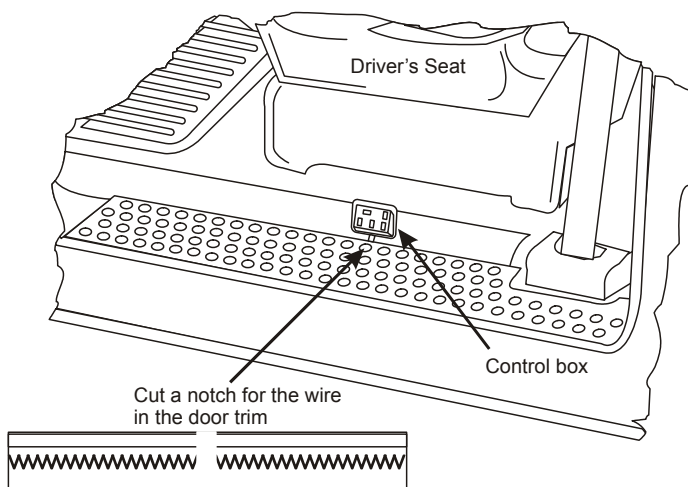

Figure 4.1
- ☐ Remove the driver-side plastic door frame base panel and the plastic molding ahead of the base panel. Mount the control box to the floor using the supplied sheet metal screws (Figure 4.1).